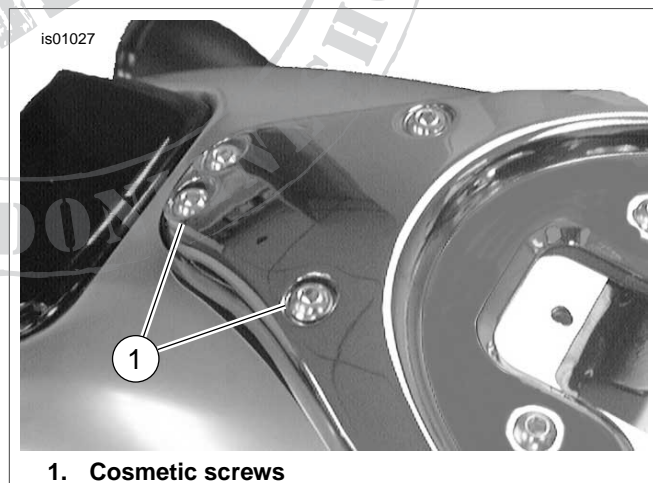
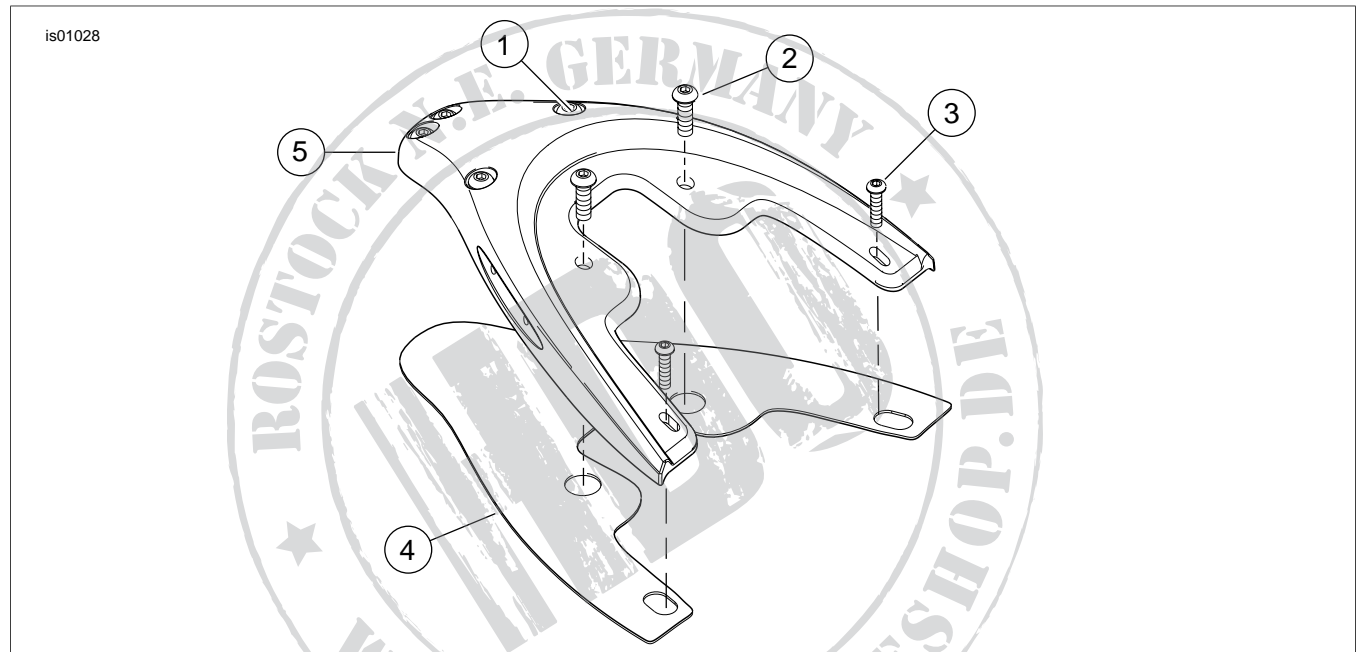

Figure 6. Install Cosmetic Screws
Figure 7. Service Parts: Baseplate Kit
See Figure 7 and Table 1.
8. Remove the two smaller fender support hex-head screws and washers (2) near the sides of the fender. Discard screws, but save washers for re-installation.
10. See Figure 7. Obtain baseplate (5) and baseplate gasket (4) from kit.
12. See Figure 7. Remove the paper backing covering the gasket adhesive (4). Carefully align the adhesive side of gasket over the back of the baseplate (5) and work around edges. Make sure gasket is aligned and adheres along the entire baseplate perimeter as shown.
13. See Figure 7. Obtain the two large button head screws (2) and two small button head screws (3) from kit. Also obtain the large and small flat washers saved in Steps 7 and 8.
18. See Figure 6 and Figure 7. Obtain four screws (1) from kit. Install the four (cosmetic) screws into the holes at the rear of the baseplate. Tighten screws to 20 Nm (15 ft-lbs).